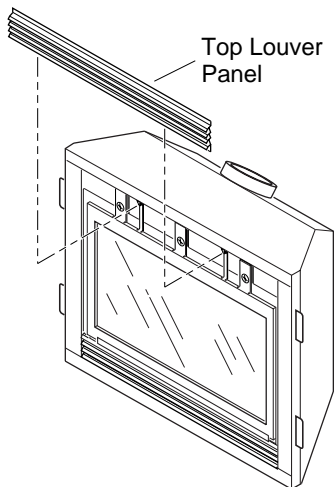

Figure 39 - Removing Top Louver Panel
1. Remove the upper louver panel by lifting upward and out (see Figure 39).